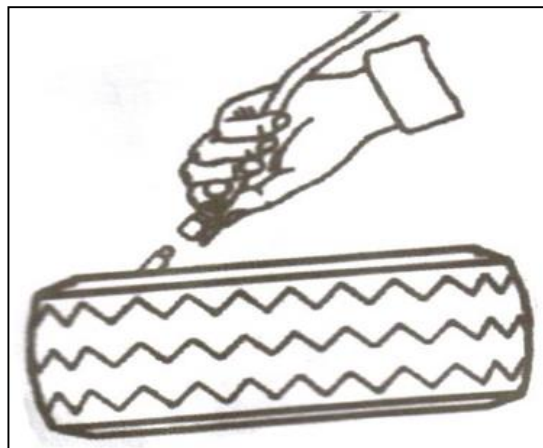

Fig. 23
When inflating the tire, please be careful and follow the operational process. Ensure to check the air routing to see if the air connection is ok. Note: the tire changer is equipped with an inflation pressure gauge to monitor the inflation of the tire and the tire's pressure (Fig. 23).
2. Connect the inflation hose with the tire's preinstalled valve stem (Fig. 23)